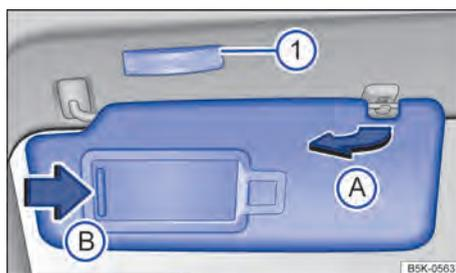

Fig. 78 Sun visor.
- Carefully remove the sun visor from the support, holding the support base, and swivel towards the door → Fig. 78 **A**.
A vanity mirror is located behind a cover on the folded down sun visor. When opening the cover → Fig. 78 (B) a lamp lights up (1).